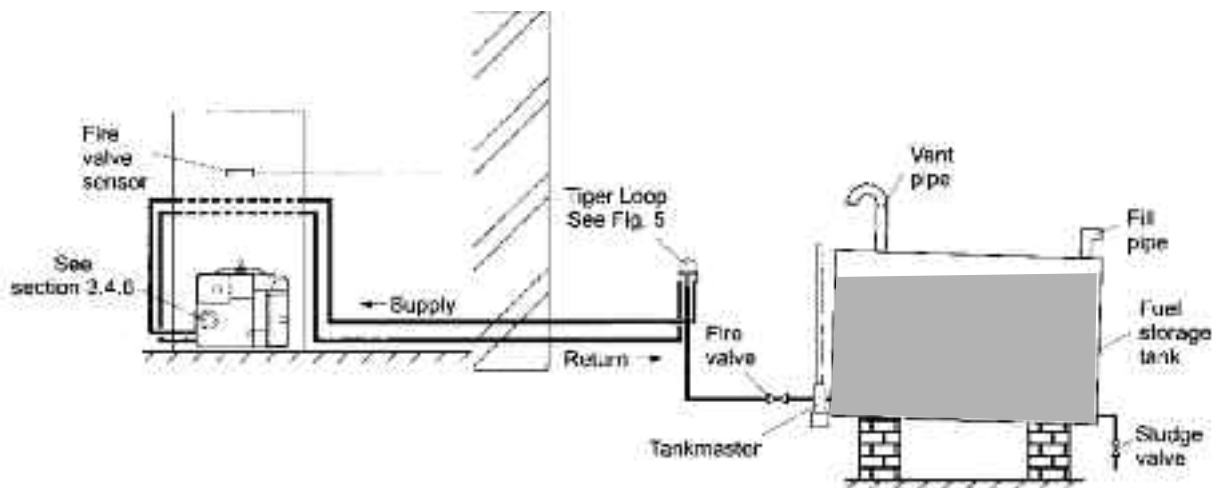

Fig. 4- Tiger loop system
- The use of a 'Tankmaster' and Tiger Loop is an ideal way of delivering an oil supply to the boiler. The Tankmaster unit, fitted to the storage tank, includes a filter, sight tube, shut-off valve and fire valve. A separate fire valve is required in the fuel line (outside) where it enters the building containing the boiler. See Fig. 4.
3.4.5 Tiger Loop system (See Figs. 4 & 5)
- 2 The Tiger Loop is connected close to the boiler as a two pipe system (omitting the non-return valve) as shown in Fig. 4. Refer to the manufacturers instructions supplied with the Tiger Loop. The Tiger Loop **must** be mounted vertically.